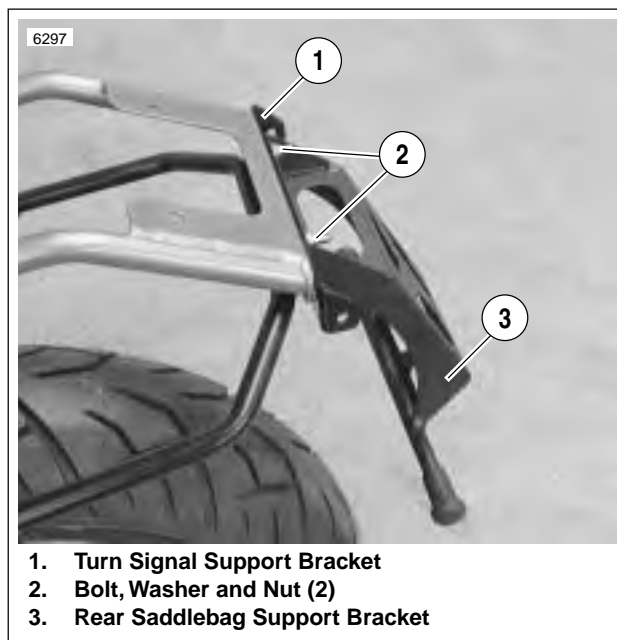

Figure 2-103. Saddlebag Brackets
6. See Figure 2-103. You may remove bolts, washers and nuts (2) to detach rear saddlebag support bracket (3) from turn signal support bracket (1).
1. See Figure 2-103. Install turn signal support bracket (1) and rear saddlebag support bracket (3) using bolts, washers and nuts (2).